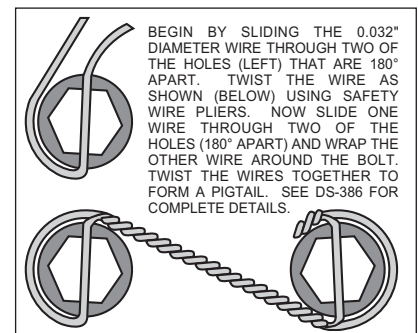

Figure 4. Safety Wire Diagram
- With the slot pointing upward and the mounting ears pointing towards the rear of the vehicle, install the caliper mounting bracket (1) to the housing flange using the stock Original Equipment Manufacturer (OEM) bolts and nuts. Stock OEM hex nuts that retain the bracket (1) should be on the wheel side of the bracket. Apply red *Loctite*® 271 to the stock OEM bolt threads and torque to OEM specifications. **NOTE:** Some brackets act as the bearing retainers, while others help locate the bearing in the axle housing flange. If the stock bearing plates are still on the axle, the caliper mounting brackets (1) should be located between the axle housing flange and the bearing retainer plate. Make sure the heads of the caliper mounting bracket insert nuts are **FACING OUTWARD TOWARDS THE WHEEL.**
- Bolt the hat (2) to the rotor (3) using lock washers (4) and bolts (5). Torque bolts (5) to 180 **in-lb**. Safety wire bolts (5) using standard 0.032 inch diameter stainless steel safety wire as shown in Figure 4. Please refer to Wilwood's data sheet DS-386 (available at www.wilwood.org/ds386.pdf) for complete safety wire installation instructions.
- Align the correct hole pattern in the hat (2) with the stud pattern on the axle flange. **NOTE:** Some OEM and after market axles come with stud sizes larger than 0.50" diameter. Verify stud size and have a qualified machine shop drill the hats to the correct size. Slide the hat/rotor assembly (2 and 3) over the wheel studs and against the axle flange face.